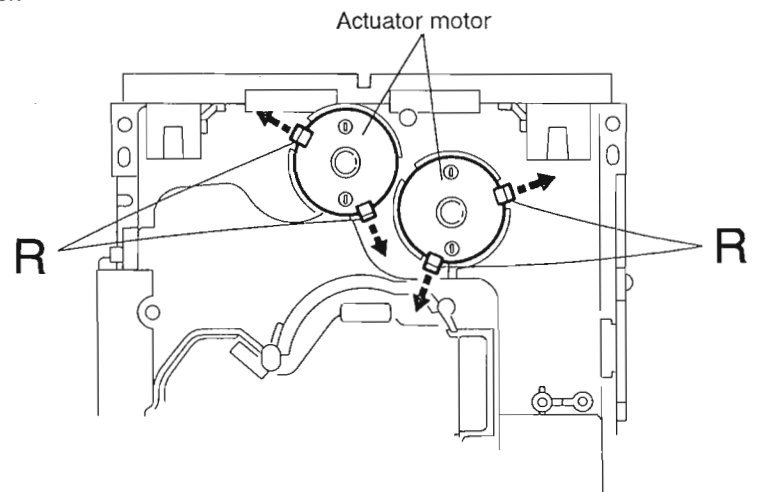

Fig.3-55
5. After turning over the chassis assembly, remove the actuator motor while spreading the four pawls "R" fixing the right and left actuator motors in the arrow direction (See Fig.3-55).